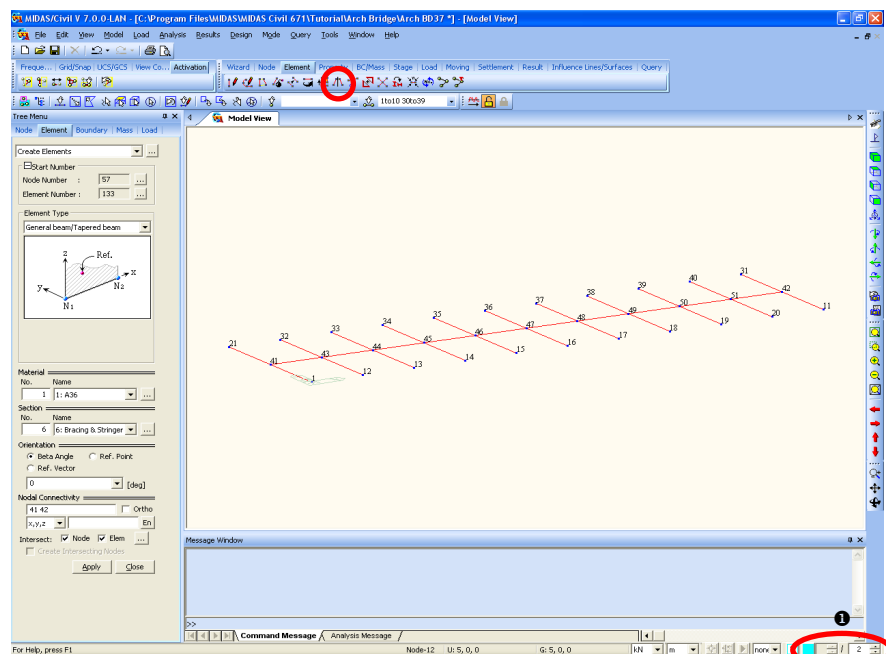

Figure 4.13 Completed Stringers
10. Confirm that the location of **Element Snap** in **Status Bar** is 1/2 (Figure 4.13①).
12. Click  **Element Number** (Toggle off) (Figure 4.13).